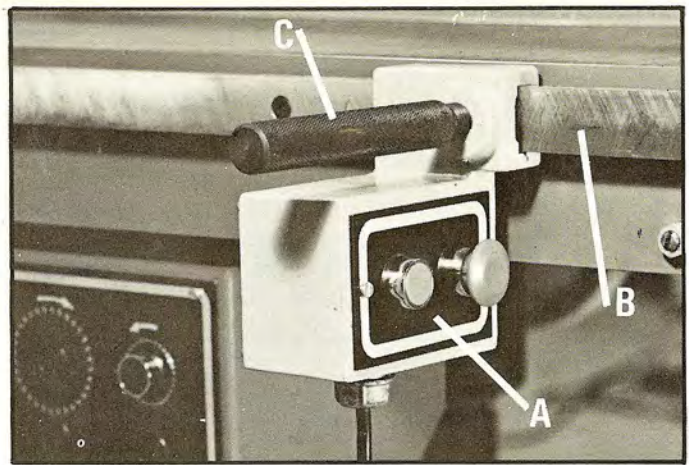

Fig. 7
Slide the remote Start/Stop station (A) Fig. 7, onto the sliding table guide (B) and tighten clamp handle (C).